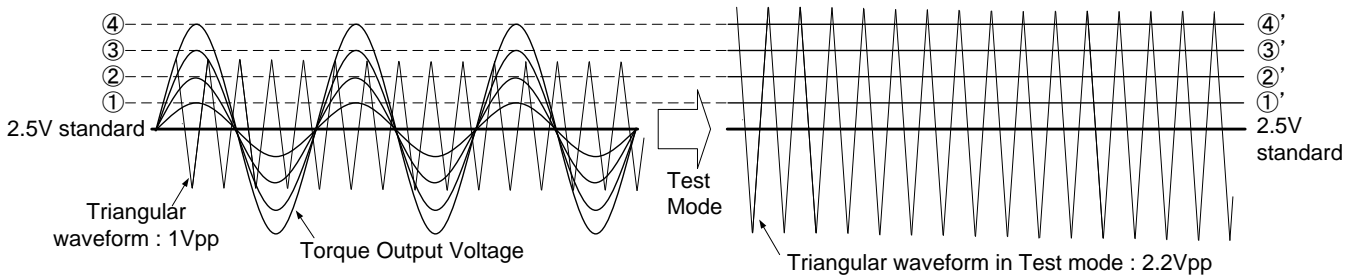

Figure -9 PREDRIVER OUTPUT DUTY Measure method
Peak voltage of torque output at VTH=1V, 2V, 2.4V and 2.9V is shown at ①~④ in Figure-9 in measurement of predriver output DUTY. For measuring predriver output DUTY, hall input is applied with DC voltage considerably to torque peak voltage of ①~④ (hall input amplitude is assumed as 100mVpp). In this condition, torque output voltage is shown in Figure-9 as ①'~④'. In addition, triangular waveform amplitude of COSC becomes 2.2Vpp. DUTY of predriver output is measured by comparison of voltage of ①'~④' and triangular waveform 2.2Vpp
| | | p.14 11. Predriver Output DUTY Change figure name. "Figure-9(a)" to "Figure-9" Change figure name. "Figure-9 (b)" to "Figure-9" |